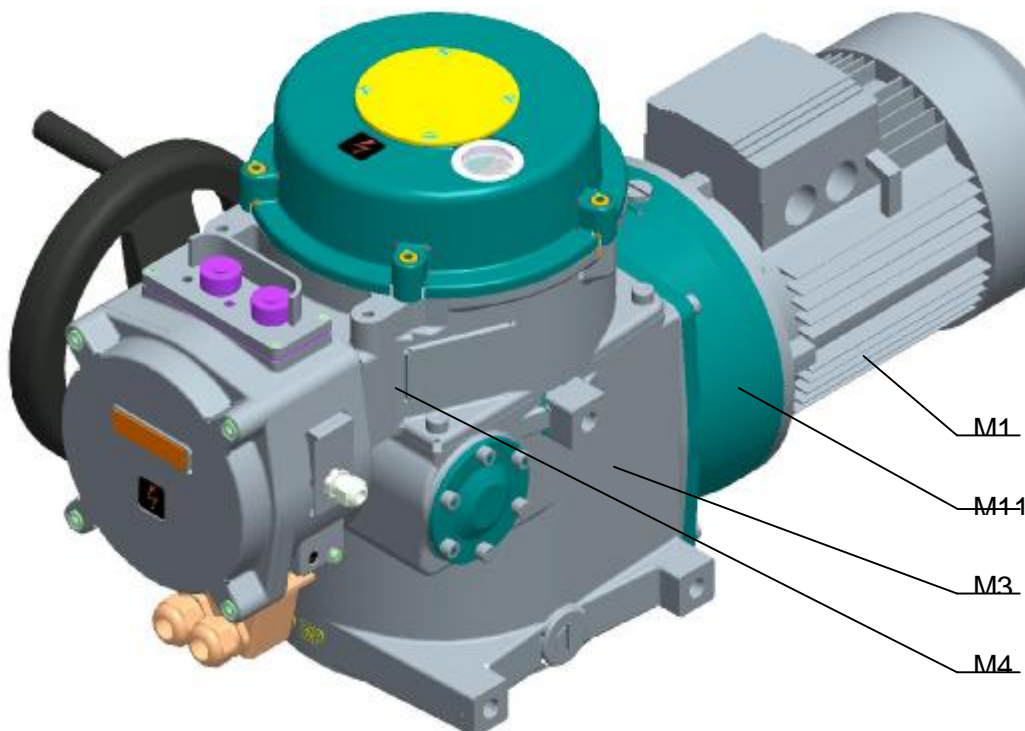
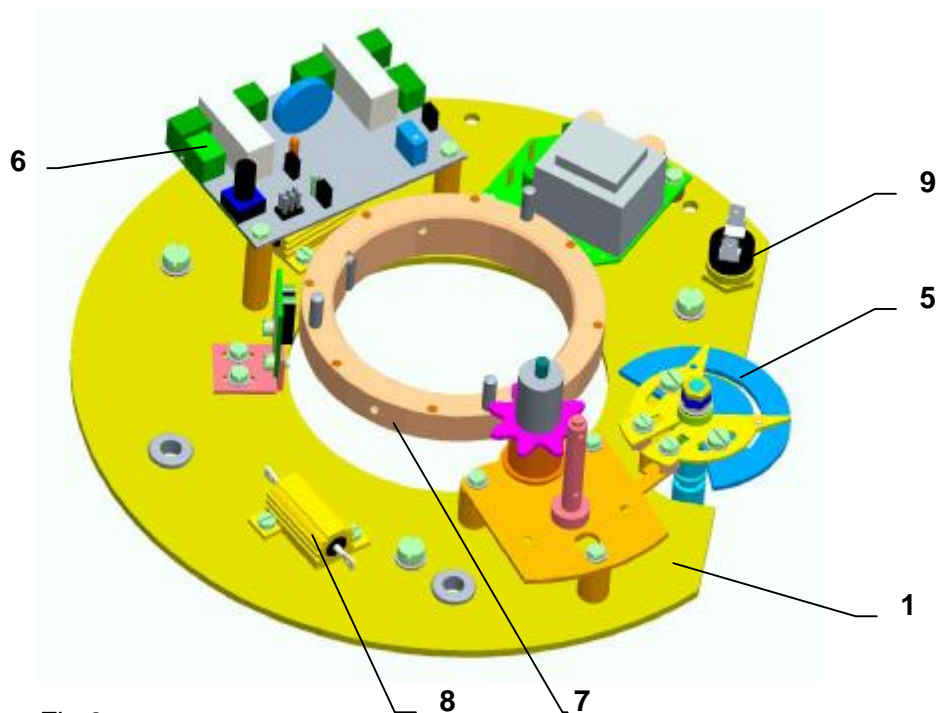

Fig.1
Fig.3
EA **MO 5P** are of compact construction with several connected modules. They are composed of two functionally different main parts consisting of following modules (**Fig.1**):
proportioned to torque load. The fork fits into perimeter slot and thus is allowed rotary motion of hand wheel, therefore manual control in every operating status. On the rear part of the box (22), (across to hand wheel) are three bosses with threaded openings, which allow fastening of electric actuator on the wall, or auxiliary construction (**Fig.1**).
**Module M4 – control box** (fig. 1), is in upper part of electric actuator and forms individual functional unit. The upper part is created by a cover. The bottom part of control box closes the box of force transmission and forms carrying part of control plate fig.3. (9), which contains:
- Torque unit (12) – controlled by axial shift of spiral worm
- impulse sensor of position (electronic module DX3004) (13) with power source (14)
- suppression module (11)
- heating resistor (16) with thermo switch (15)
- electric connection via **terminals** (58), located in the space of control box, and cable bushings **respectively connector** with cable bushings
- contactors (10) for make with 3~ electromotor